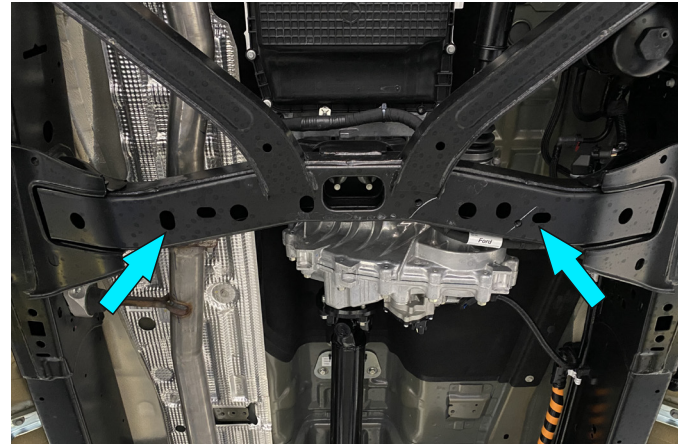

Fig. 2
2. Install the insert nut M10 (item D), as shown in fig.2.